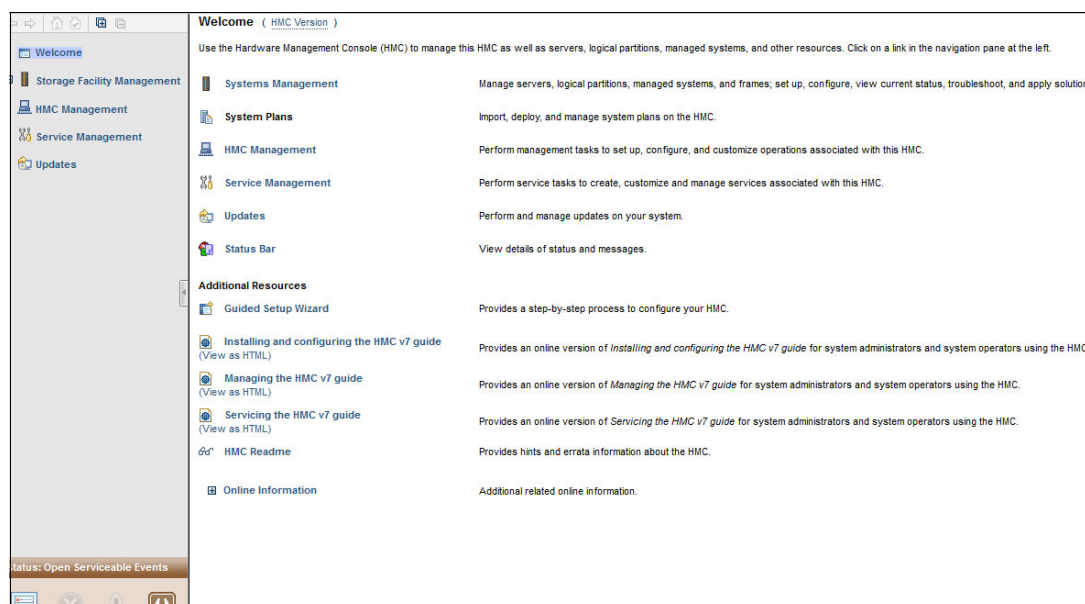

Figure 8-6 Web UI Welcome window
1. Start and log in to the Web UI. For more information, see 8.2.6, “Web-based user interface” on page 208. The MC Welcome window opens, as shown in Figure 8-6.